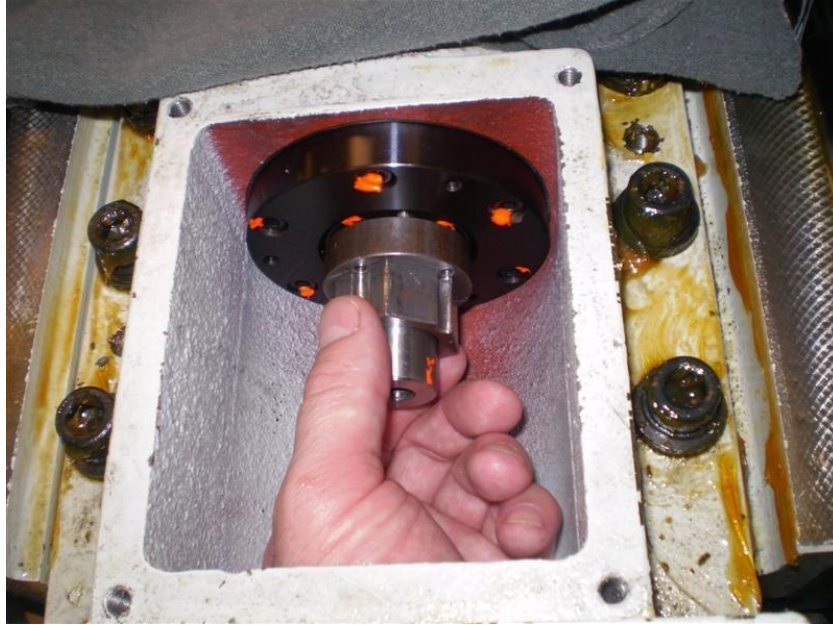

Figure 6.8.1c
- d. At the support end, slacken the four M4 bearing locknut (20) SHCS, and completely remove two opposing screws
- e. Transfer the SWI pre-tensioning socket onto the bearing locknut as shown in figure 6.8.1c. Insert a 8mm hex key at the motor end of the Ballscrew to prevent rotation.